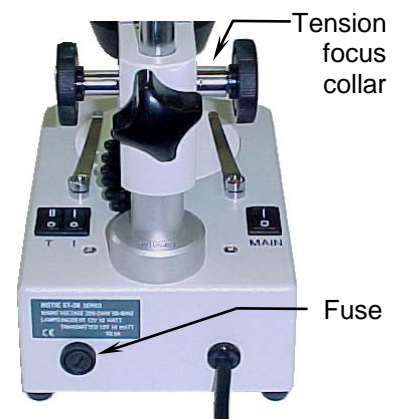

Fig. 5
- With a flat screwdriver, press lightly on the slot of the fuse cap (Fig.5) and turn 1/4 turn as indicated by the arrow.
The tension adjustment collar for focussing (Fig.5) is situated between the focussing knob (13) and the head holder (11).
**NB:** In the model ST-37, the tension adjustment collar can be found between the focus knob (13) and the arm (15).